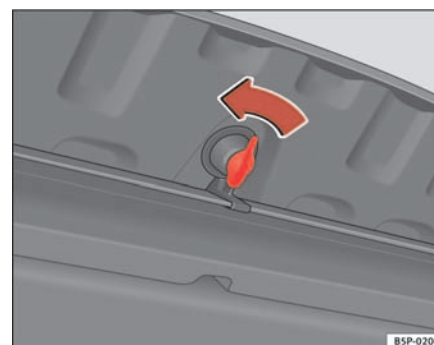

Fig. 118 Opening the storage compartment
The warning triangle is located in a stowage box under the luggage compartment cover ⇒ page 143, fig. 118. To open this storage compartment, turn the knob 90° fig.
- Open the storage compartment by turning the knob 90° ⇒ page 143, fig. 118.